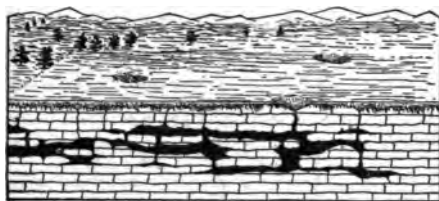

FIG. 30. — Showing how coves and holes are formed by the solvent action of water.
65. Destructive Action of Water. The action of water in stream and sea, in springs and wells, is evident to all ; but the activity of ground water — that is, rain water which sinks into the soil and remains there — is little known in general. The real activity of ground water is due to its great solvent power ; every time we put sugar into tea or soap into water we are using water as a solvent. When rain falls, it dissolves substances floating in the atmosphere, and when it sinks into the ground and becomes ground water, it dissolves material out of the rock which it encounters (Fig. 30). We know that water contains some mineral matter, because kettles in which water is boiled acquire in a short time a crust or coating on the inside. This crust is due to the accumulation in the kettle of
Rocks and minerals are not all equally soluble in water; some are so little soluble that it is years before any change becomes apparent, and the substances are said to be insoluble, yet in reality they are slowly dissolving. Other rocks, like limestone, are so readily soluble in water that from the small pores and cavities eaten out by the water, there may develop in long centuries, caves and caverns (Fig. 30). Most rock, like granite, contains several substances, some of which are readily soluble and others of which are not readily soluble; in such rocks a peculiar appearance is presented, due to the rapid disappearance of the soluble substance, and the persistence of the more resistant substance (Fig. 31).